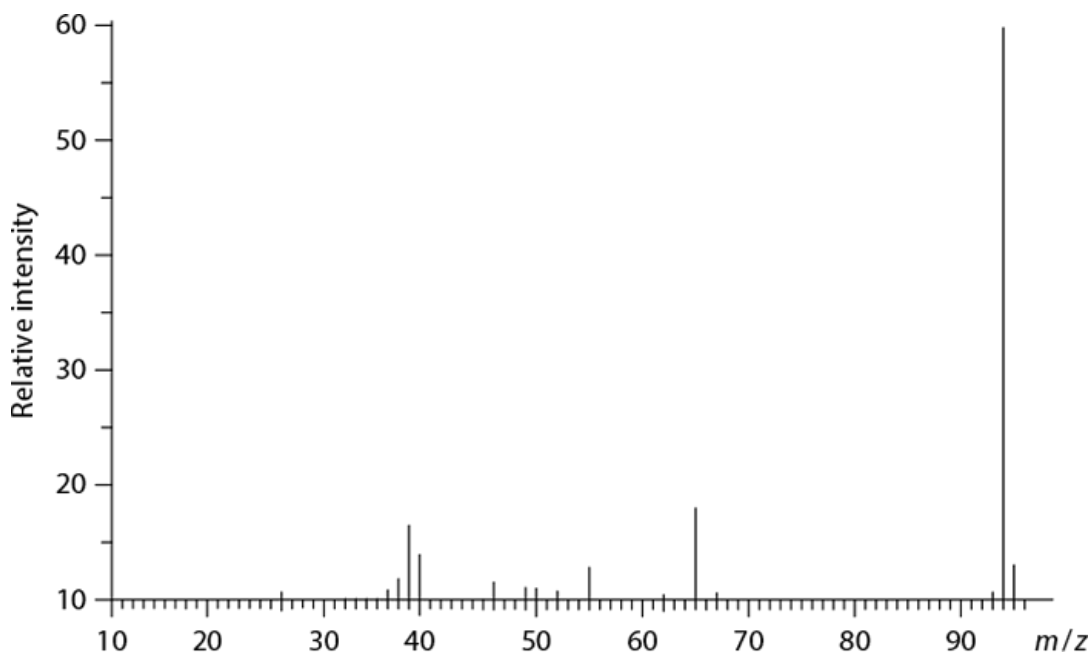
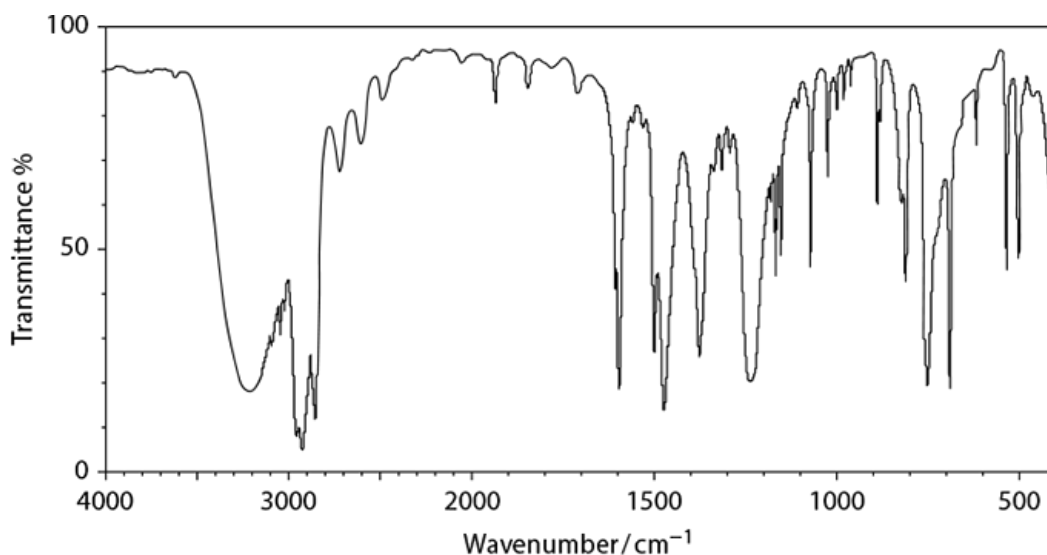

Figure 17.2: Mass spectrum of **Y**
Figure 17.3: Infrared spectrum of **Y**
- 7** The mass spectrum (Figure 17.2) and infrared spectrum (Figure 17.3) of **Y** are given.